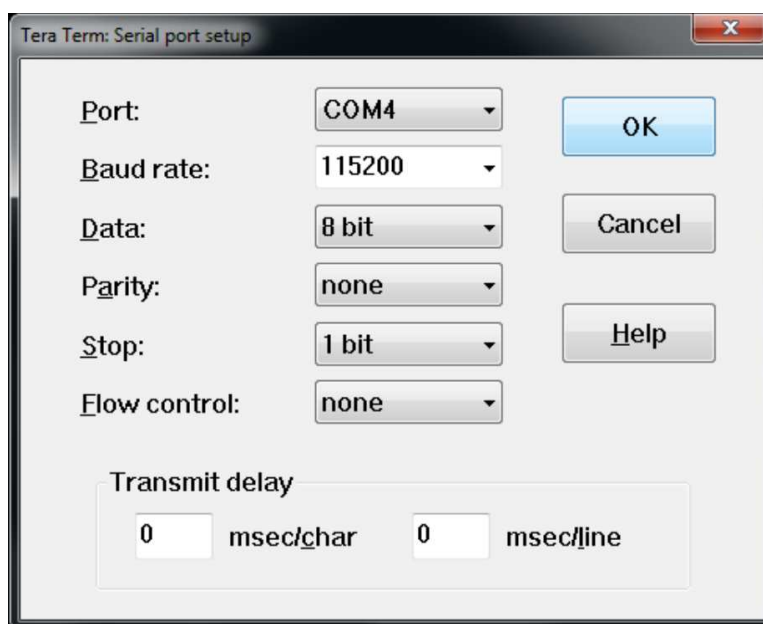

Figure 2-6. Configure Settings
- Configure the setting as shown in Figure 2-6. Click OK to continue.